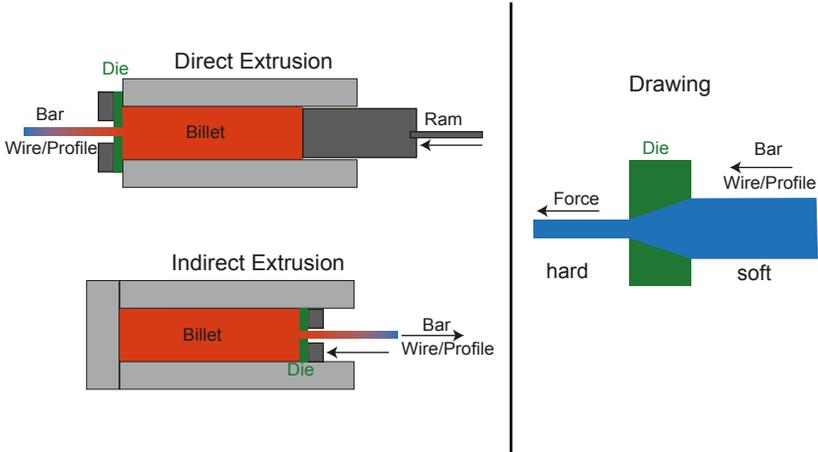

Figure 5.2.: Extrusion and Drawing of Bars/Wires/Profiles
**Extrusion:** Metal Extrusion (see figure 5.2) is a metal forming manufacturing process in which a heated cylindrical billet inside a closed cavity is forced by a mechanical or hydraulic press to flow through a die of a desired cross-section.